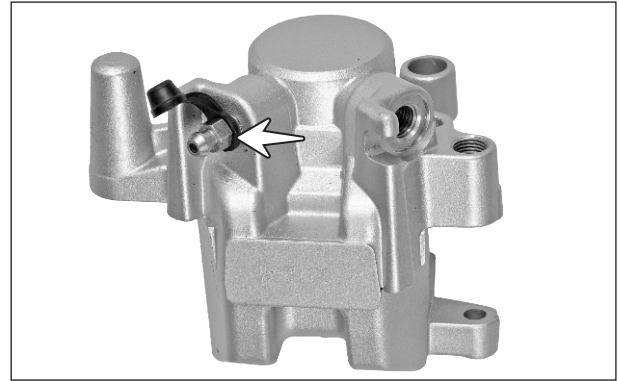

Fig. 6.121
- Unplug cap bleeder and remove bleeder screw. (Fig. 6.121)